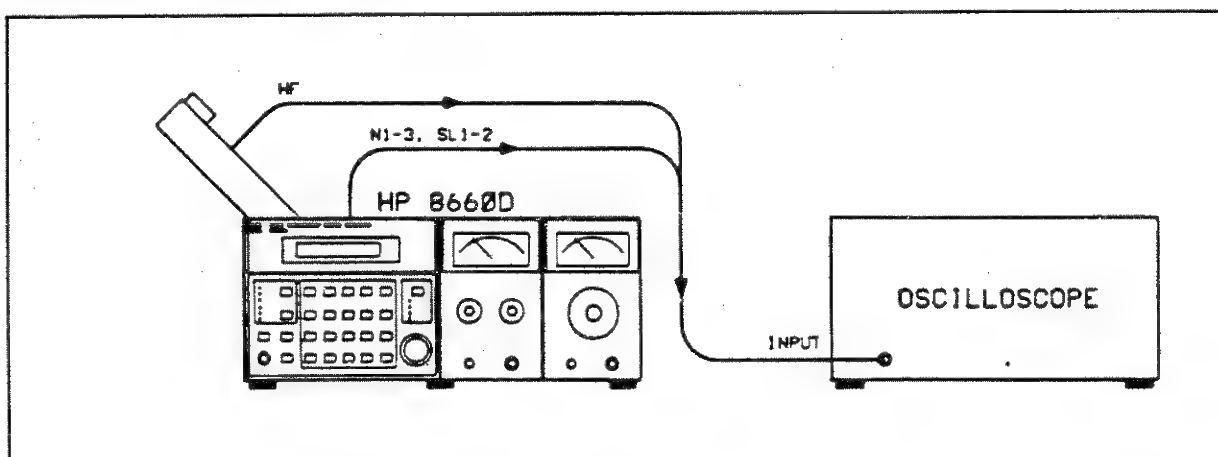

Figure 4-3. Phase Locked Loop Test Setup
1. Set up the test equipment as shown in Figure 4-3.
All of the test points except for the HF loop are located on the Low Frequency motherboard. Access to these test points is obtained by raising the A4 assembly and locking it in the up position (see Figure 4-3). Figure 5-23 shows the approximate location of all test points. The reference designators of the test points are etched on the pc board. Access to TP3 and TP8 is difficult because they are under the A3A1 and A3A2 assemblies. TP3 can be reached by using a piece of solid wire to probe down into the test point. TP8 is connected to XA12-1 pin 4, which is accessible.